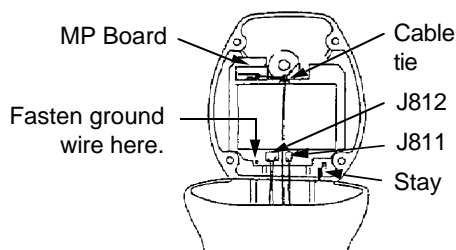

Figure 6-14 Antenna unit, cover opened
4. Open the antenna housing cover and fix the stay as shown in Figure 6-14.
5. One end of the cable with 15-, 9- and 7-way plugs has already been connected to RTB-9100 inside the scanner housing. Mate the 15- and 9-way plugs with jacks J812 and J811 on the transceiver module, respectively. Connect the 7-way plug to jack J701 on the MP Board. Secure the cable between RTB-9100 and J701 with the cable tie as shown in Figure 6-14.
6. Fasten the ground wire (black) of the signal cable to the chassis as shown in Figure 6-14.